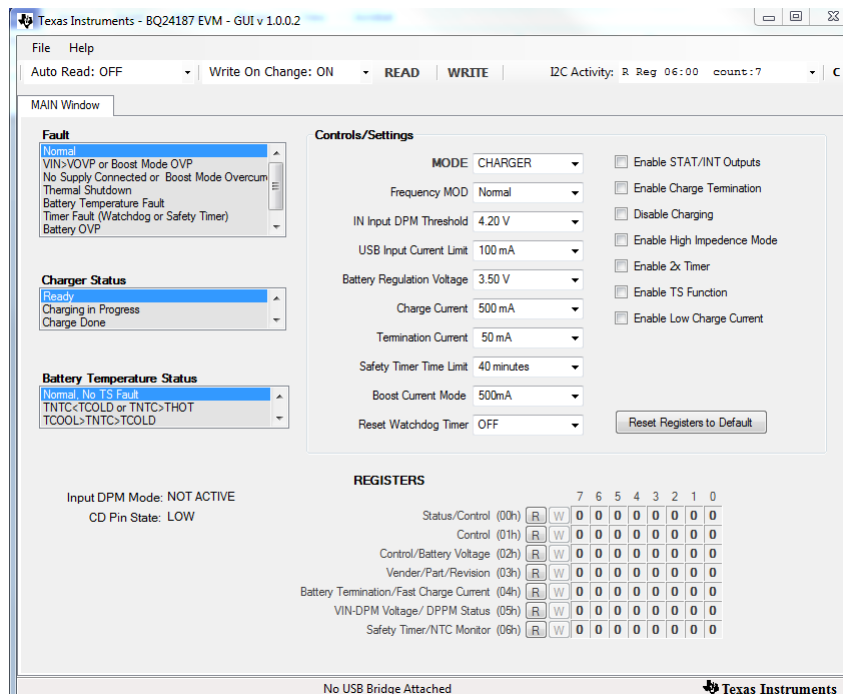

Figure 5. Main Window of BQ24187SW Evaluation Software
- Turn on the computer. Open the BQ24187 evaluation software. Figure 5 shows the main window of the software.